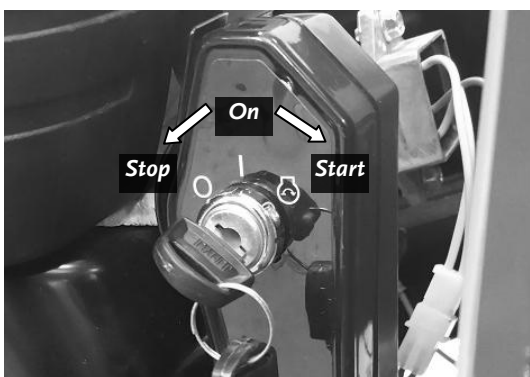

Figure 19b
4. Turn the Key to the “START” position until the engine starts and then release it (**Figure 19b**). The Key Switch will snap back to the “ON” position.